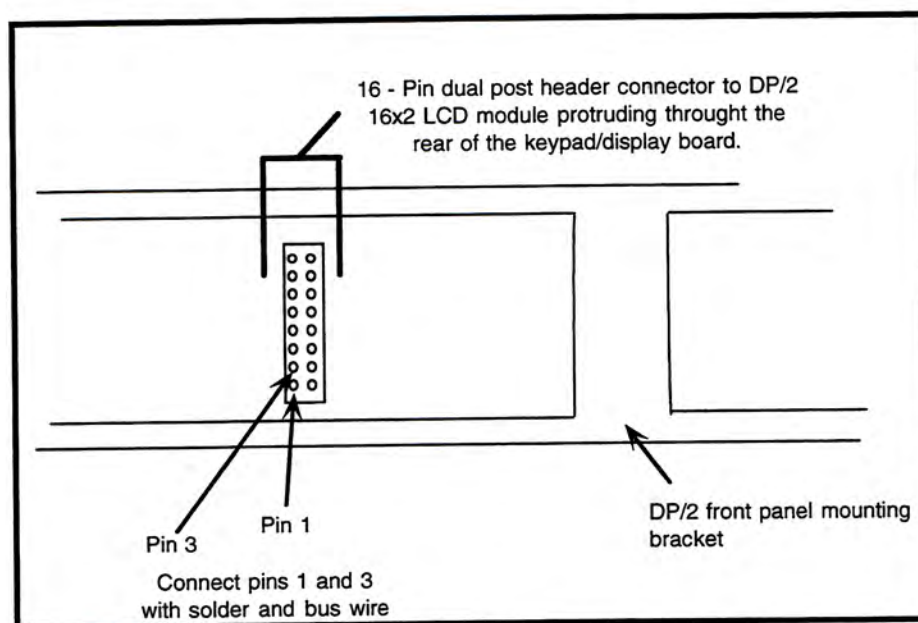

Figure 5 - Correcting display with poor top viewing angle
2. From behind the keypad/display board, connect pins one and three together with a small piece of bus wire and solder (see figure 5). This shorts out R2 on the keypad/display board.